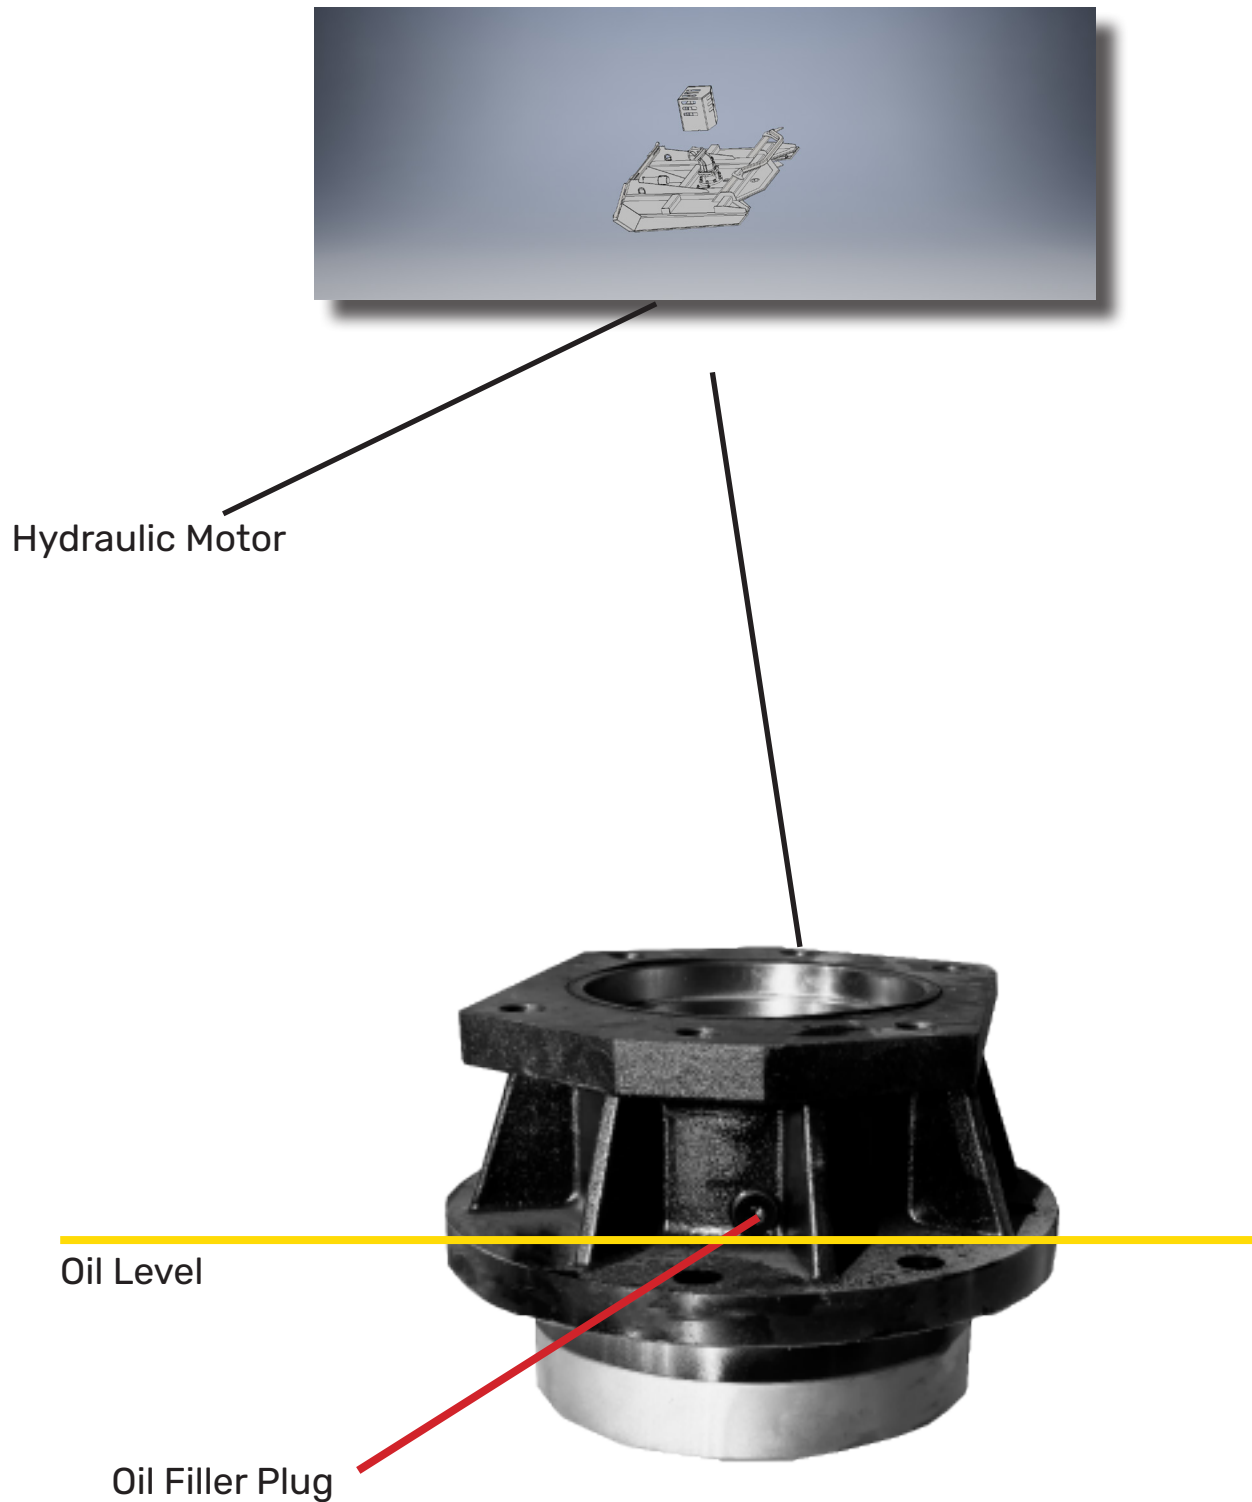

Figure 4.8a Bearing Housing
1. Remove the motor cover to access the bearing housing. The bearing housing is located below the hydraulic motor. See figure 4.8a on next page.